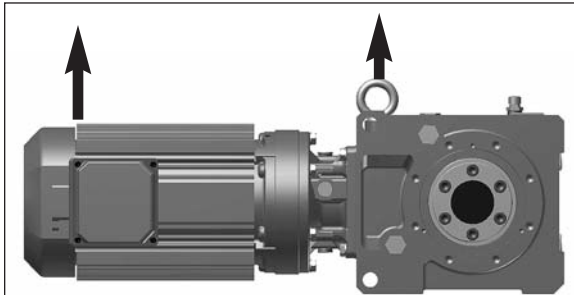

Fig. 5.9 Externally Support the Unit
Step 2 – Before removing the reducer/gearmotor from the driven shaft, externally support the unit so that all its weight is removed from the driven shaft (see Fig. 5.9). **Caution: Do not raise the unit too high. It may cause the shaft to bind.**